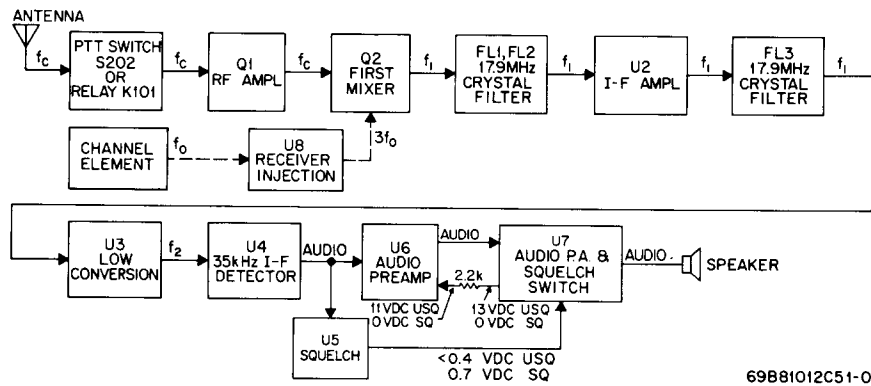

Figure 6. VHF Receiver Block Diagram
The receivers are dual-conversion, super-heterodynes (refer to Figures 6, 7, and 19). Both VHF and UHF receivers consist of an rf amplifier, two oscillators, two mixers, an injection module, two 35 kHz i-f amplifiers, an i-f
- a. RF Circuits, VHF Receivers (Refer to Figure 6 and the schematic diagram in Service Manual 68P81012C56)